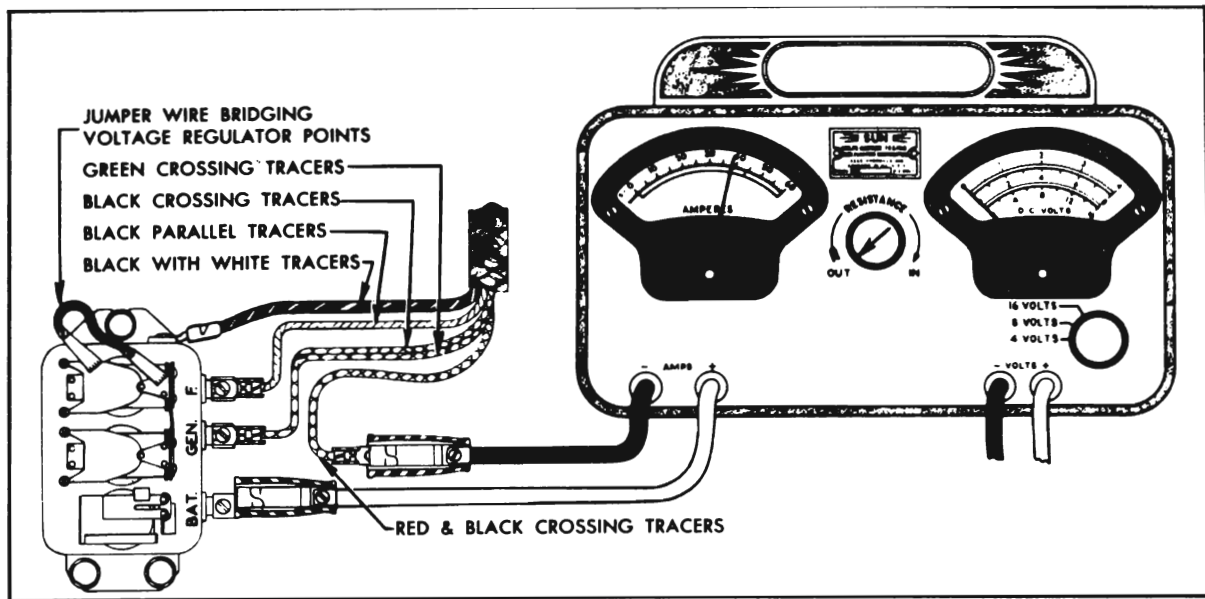

Figure 10-22—Current Regulator Test Connections—Variable Resistance Method
15. Stop engine, turn resistance to "out" position and disconnect voltmeter. Remove regulator cover and connect a jumper wire between upper contact and armature of voltage regulator. This will prevent voltage regulator from operating and reducing charging rate of generator. See figure 10-22.